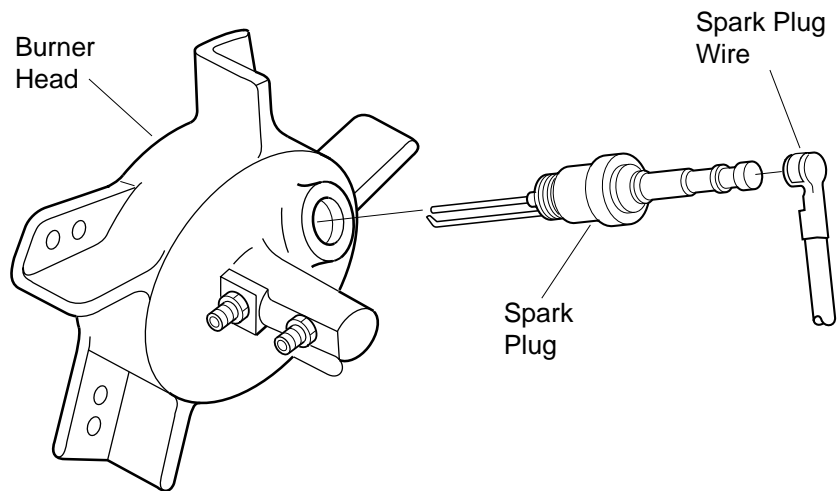
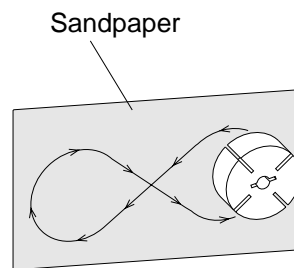

Figure 8 - Spark Plug Removal
Figure 17 - Sanding Rotor
14. Place fine grade sandpaper (600 grit) on flat surface. Sand rotor lightly in "figure 8" motion four times (see Figure 17).